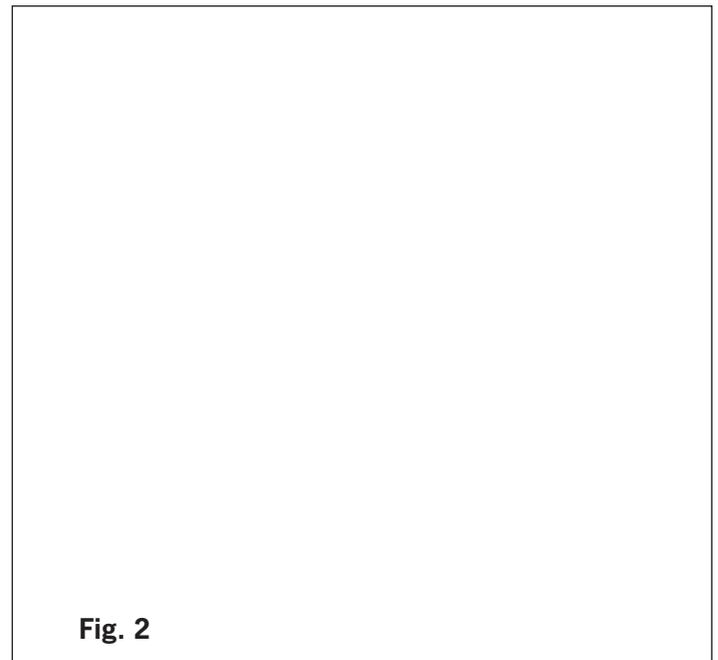

Fig. 2
4. In the Fig. 2 box sketch the appearance of the button and glass after you have completed Step 3 of the process.